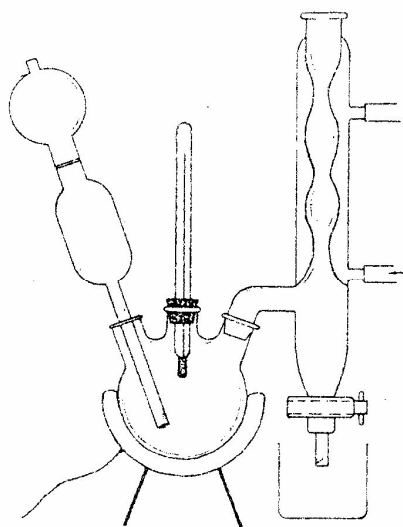

Fig.3.
1. A three-necked flask provided with a thermometer, a condenser, and a liquid sampler (Fig.3).